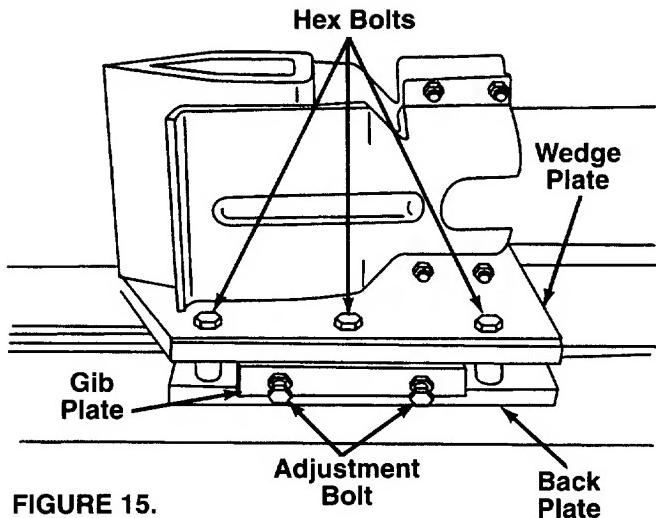

FIGURE 15.
1. Remove the center bolt on top of the wedge plate. Slide the gib plate out. See figure 15.
As normal wear occurs, periodically adjust the bolts on the side of the wedge plate as follows to eliminate the excess space between the wedge plate and the beam. See figure 15.